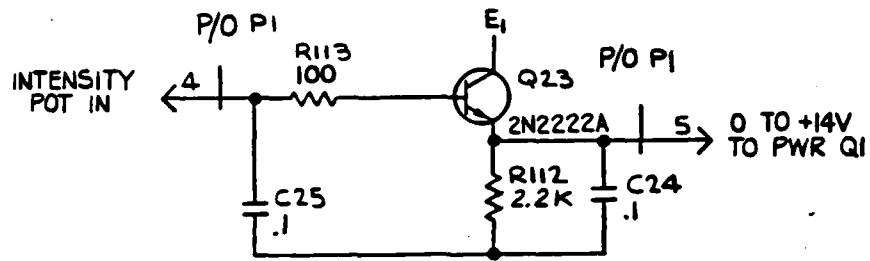

FIGURE 33 INTENSITY LIGHTING CONTROL CIRCUIT
b. The schematic for the intensity lighting control circuit is shown in Figure 33.